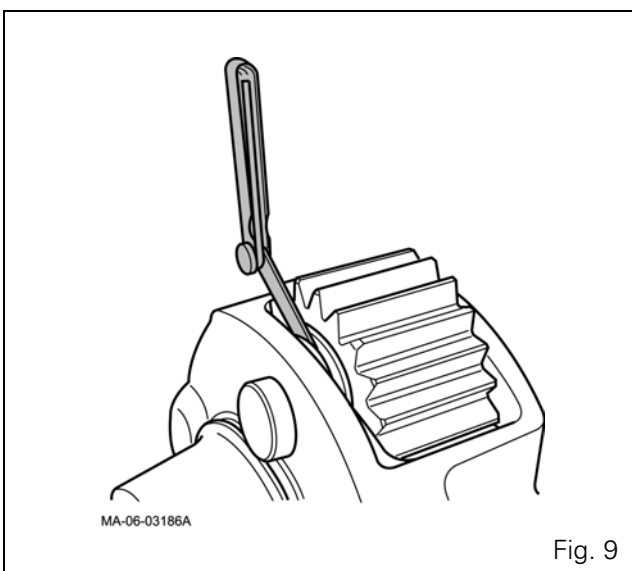
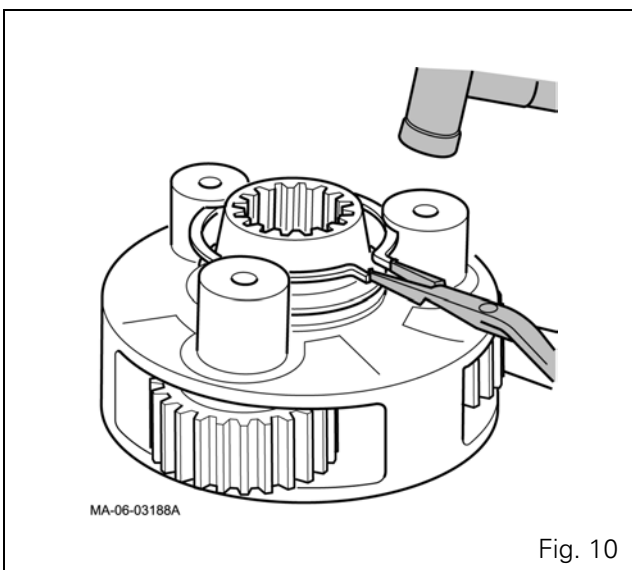

Fig. 9
Fig. 10
46. Fit the pinion gears (14) with shims (13) of medium thickness on either side.
47. Engage the three pins (12).
48. Use a set of shims to determine a thickness of shims (13) to fit to obtain axial clearance between 0.15 and 0.55 mm on each pinion gear (Fig. 9).
49. Pull gently on the three pins, and fit the shims (13) selected at operation 48.
50. Drive out the three pins and the snap ring (11).
51. Open the snap ring (11) (Fig. 10).
52. Tap lightly on the three pins so that the snap ring fits into the groove of the planet carrier (Fig. 10).
53. Ensure that the tab washer (9) is present.